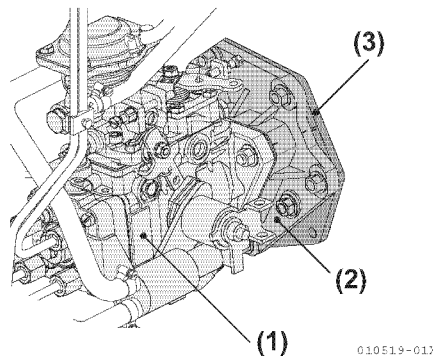

Figure 6-28
3. Insert the VE pump and a new O-ring into the hole of the pump bracket. Verify that the key of the camshaft and the key groove of the drive gear are aligned. Lightly tighten the three nuts for the VE pump (Figure 6-28).